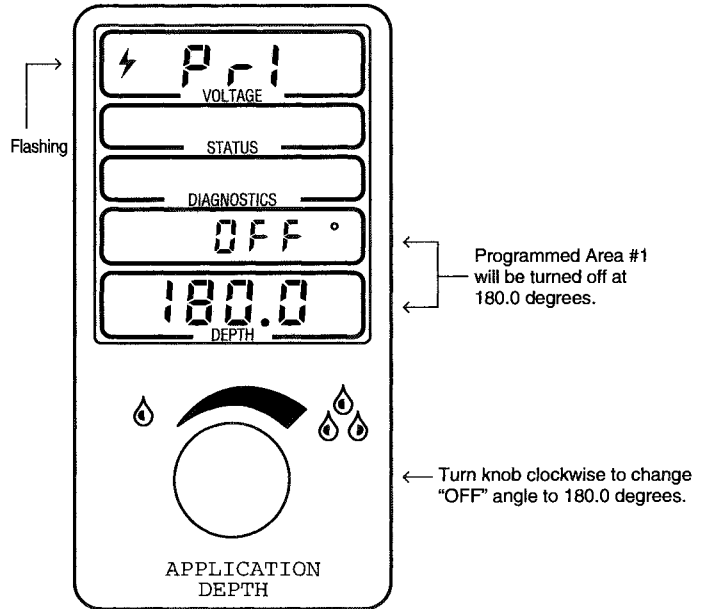

Figure 2.33
6. Turn the knob clockwise to set the "OFF" angle to 180 degrees. Notice that "OFF" is displayed in figure 2.33 the entire time the knob is being turned. This indicates that the "OFF" or Stop angle value for Area #1 is being set.